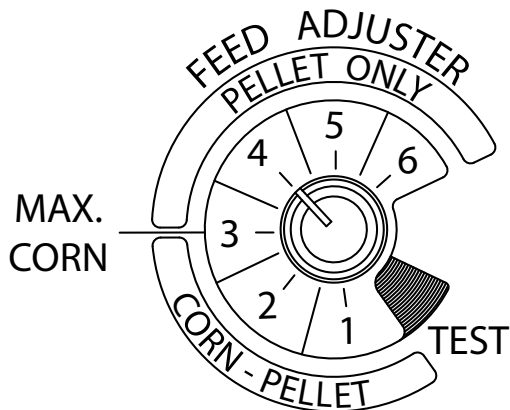

Fig. 24
1. Turn the Feed Adjuster to the desired feed rate, approximately #4. Fig. 24